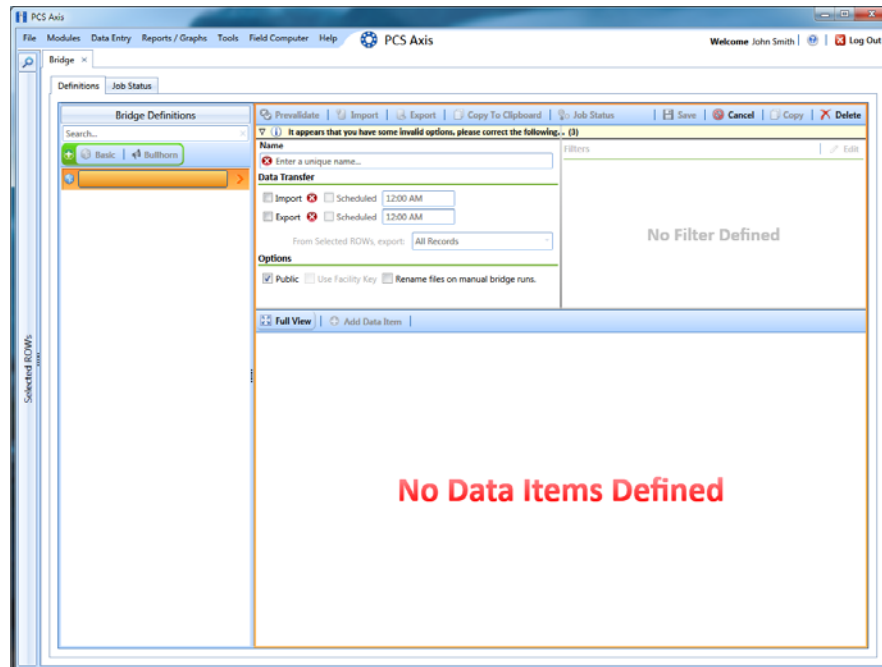

Figure 9-5. Basic Definition Panel
- 3 Click **Basic** to open the basic definition panel (Figure 9-5).